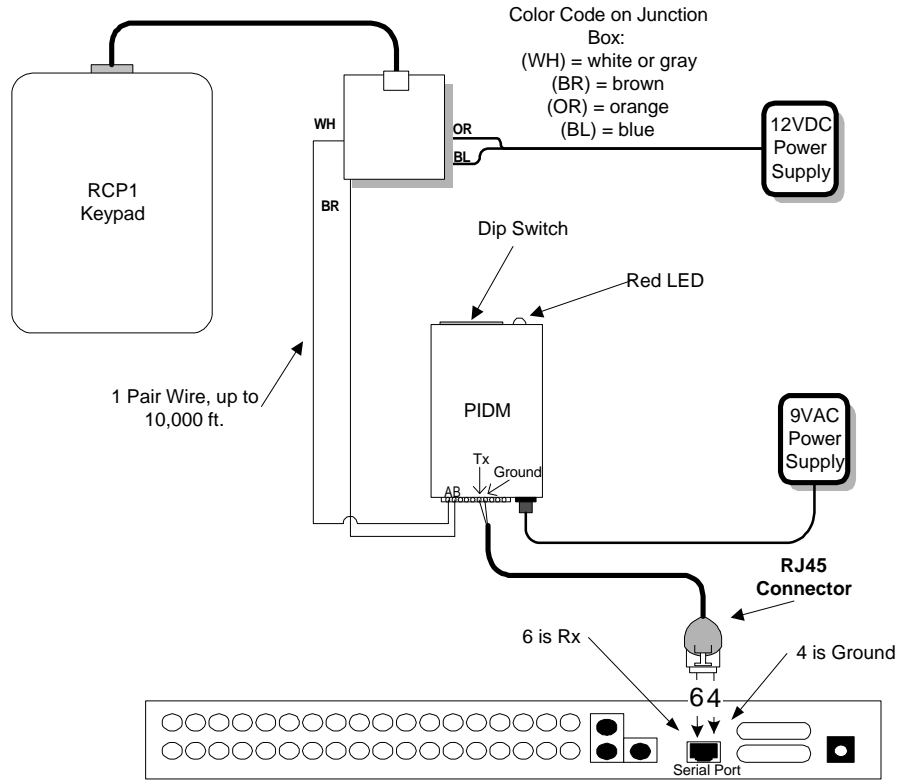

Figure 4
Follow these steps to ensure proper connection and set up of your RCP1 with the standard configuration when using the **DPX16, DPX16m, SPX16, SPX16m, DPX9, DPX9m, SPX9, SPX9m, or DPX4**. Figure 4 below shows the overall connection configuration of the RCP1 with your multiplexer.
1. Connect the RCP1 keypad to the junction box with RJ-45 cable as shown in Figure 4.